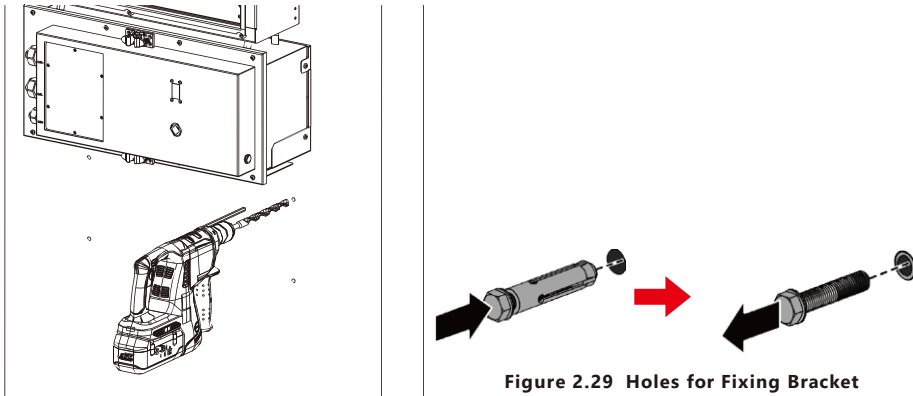

Figure 2.29 Holes for Fixing Bracket
**Step 12** Drill holes at the position using a percussion drill (M12 drill, depth of holes: 70mm). After drilling, put 4 expansion bolts into the hole and take out the expansion screws as shown in Figure 2.29